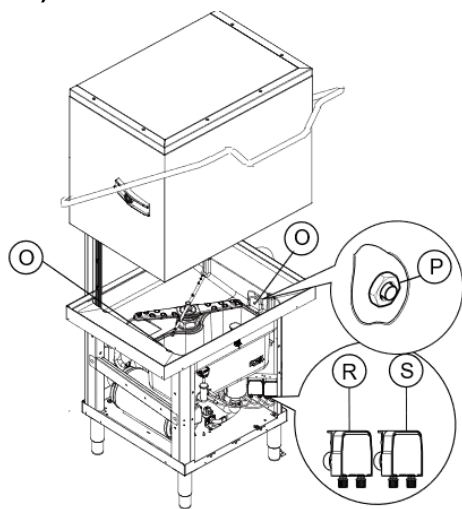

Figure 18 Automatic dispenser arrangement
1. Dishwasher with incorporated detergent dispenser (Figure 18).
2. Dishwashers with incorporated peristaltic rinse-aid dispenser (Figure 18).
Connections for automatic detergent dispenser (Figure 18)